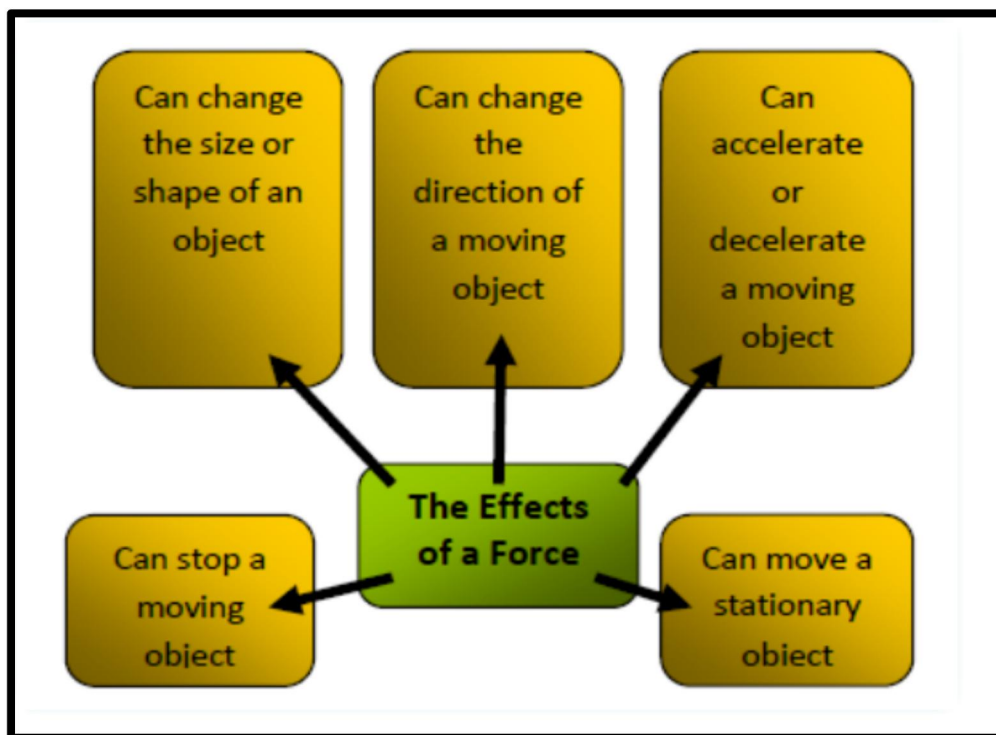

Figure 2.7 The effects net force
- **Figure 2.7** shows general effects of net force.